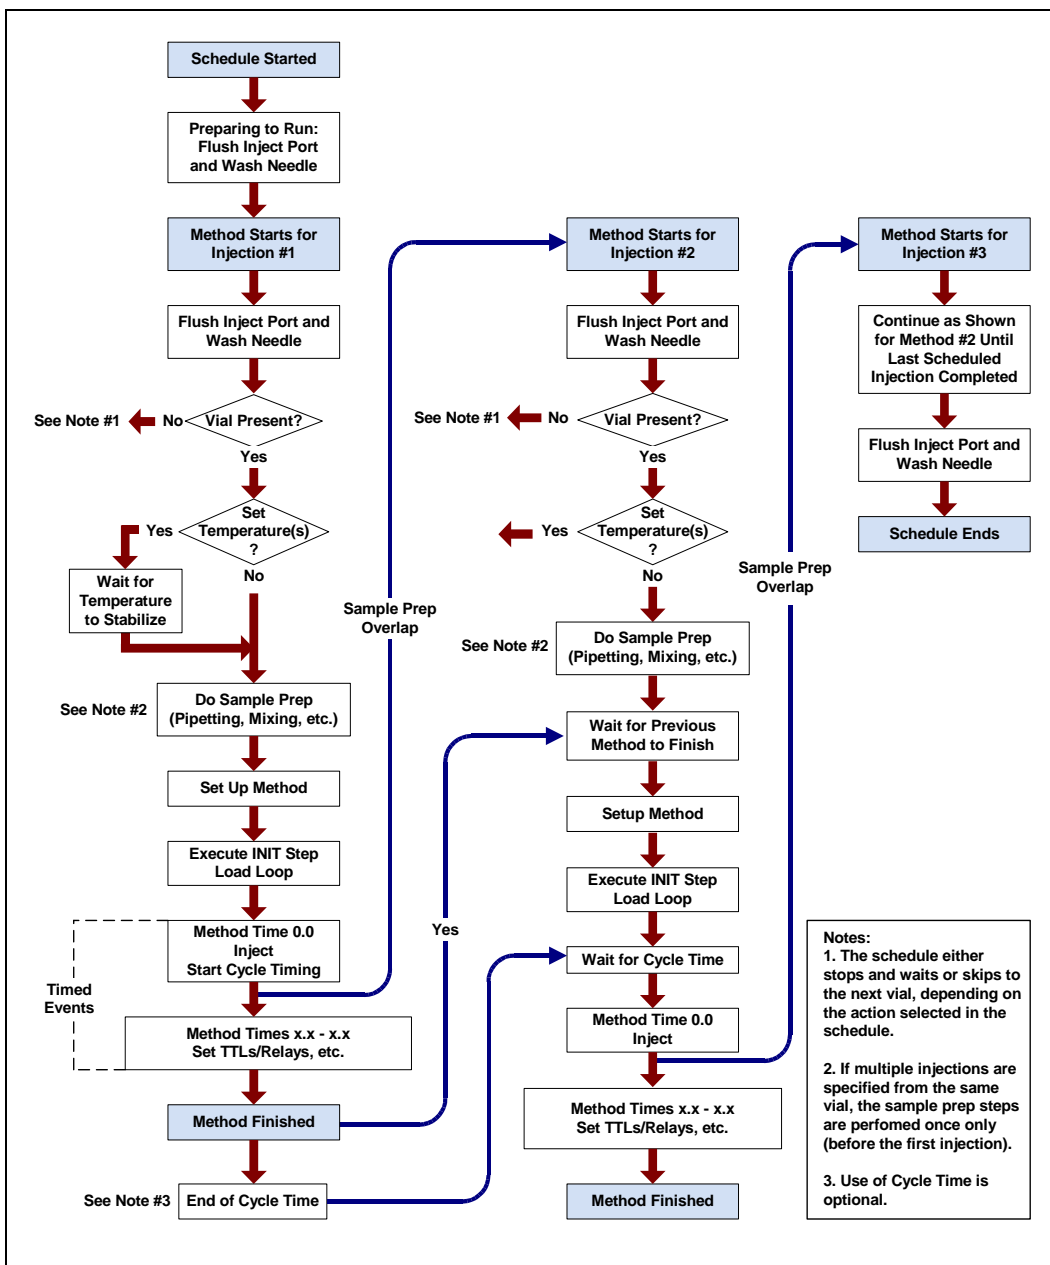

Figure 2-18. Order of Events During a Schedule Run (Wait Disabled)
For details about the order of events during a schedule when the wait is disabled, see Figure 2-18.
- Figure 2-18 shows the order of events during a schedule when the wait operation is disabled.